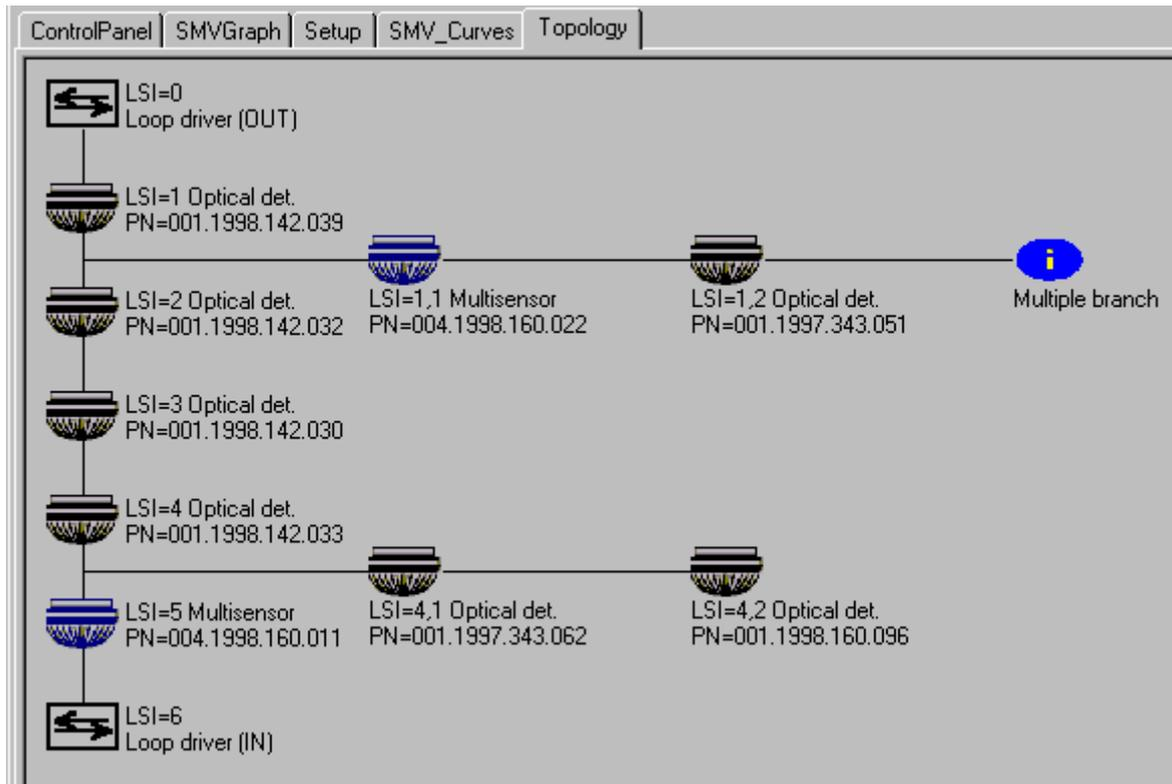

Figure 35. Correct topology
- Figure 35.* Correct topology